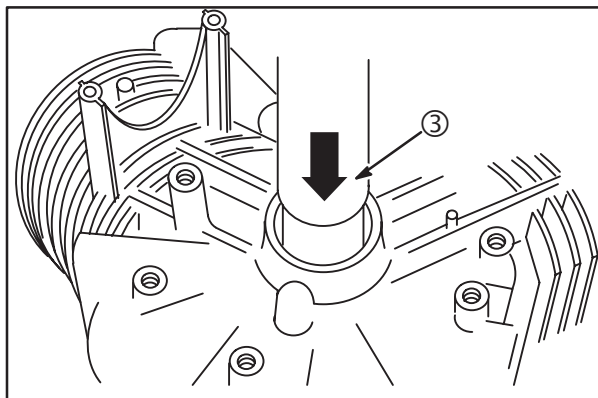

Fig. 11
3. Press in new bearing to correct depth with Bushing Driver #19349 (3), Fig. 11.